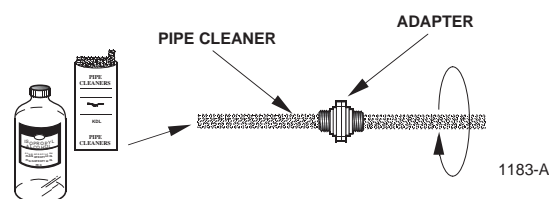

Figure 507-2. Cleaning SC and FC Adapters
6. To clean SC and FC adapters, use a pipe cleaner moistened with alcohol. Insert the pipe cleaner into the adapter and rotate. Blow dry with clean dry compressed air. See **Figure 507-2**.